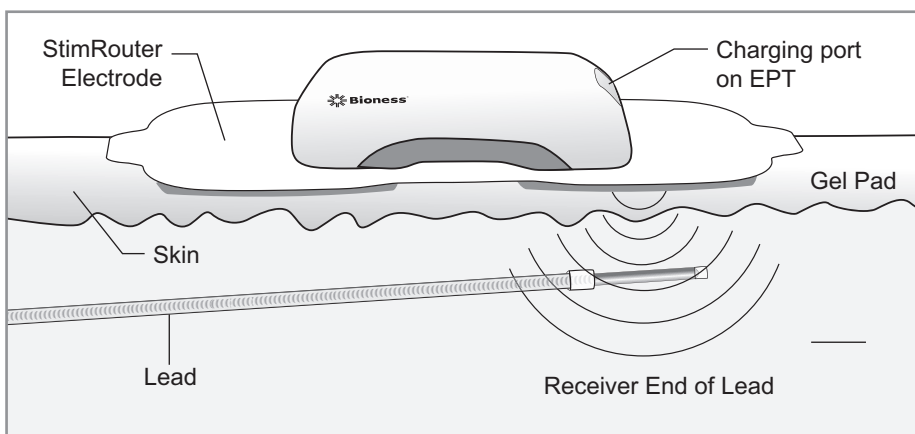

Figure 10-4: Optimal stimulation, position (Illustration not to scale)
4. Align the end of the StimRouter electrode with the EPT charging port directly over the receiver end of the lead. The center of the gel pad should be above the receiver end of the lead. See Figure 10-4. If the StimRouter electrode is not directly over the receiver end of the lead, then stimulation may be uncomfortable or ineffective.